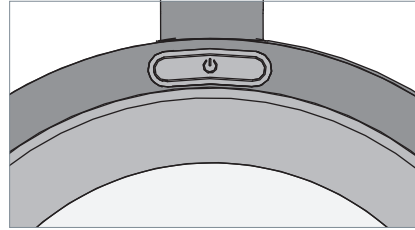

Fig. 6: Switch.
- ▶ Press the switch, see Fig. 6.
- ▶ Press the switch and keep it depressed, see Fig. 6.